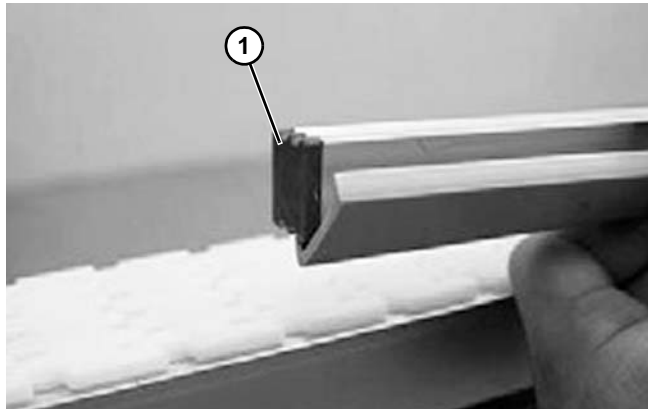

Figure 95
1. To prevent products from being scratched, a plastic guide rail cover (**Figure 95, item 1**) can be snapped on to the inside of the guide rail.